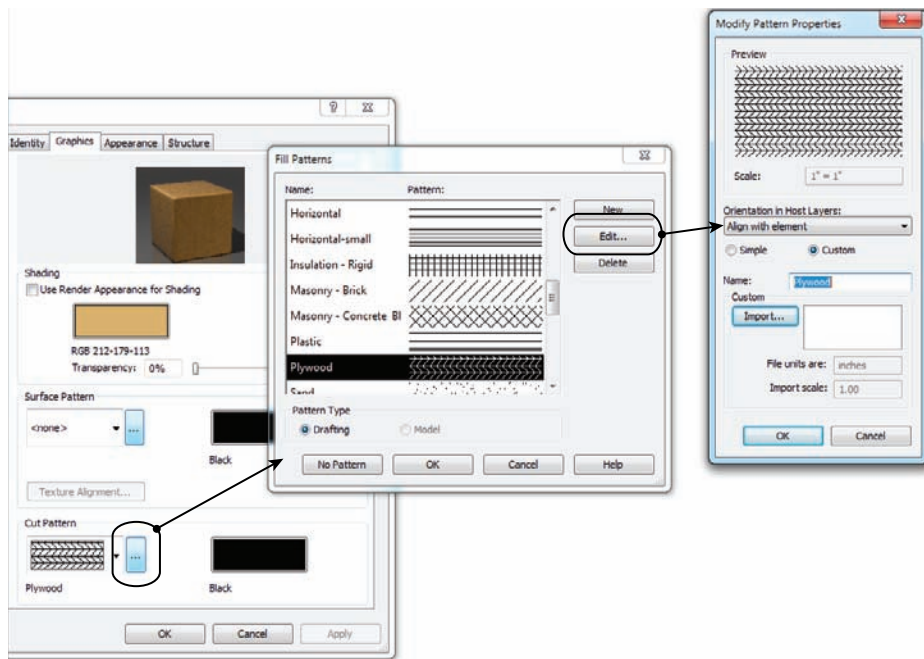

FIGURE 12.44 Show us your plywood!
6. In the Materials dialog, click the Graphics tab at the top of the right panel, as shown in Figure 12.44.
8. To the right of the Plywood pattern is another [...] button. This one's nice and big! Go ahead and click it, as shown in Figure 12.44.
9. In the Fill Patterns dialog, click the Edit button (see Figure 12.44).